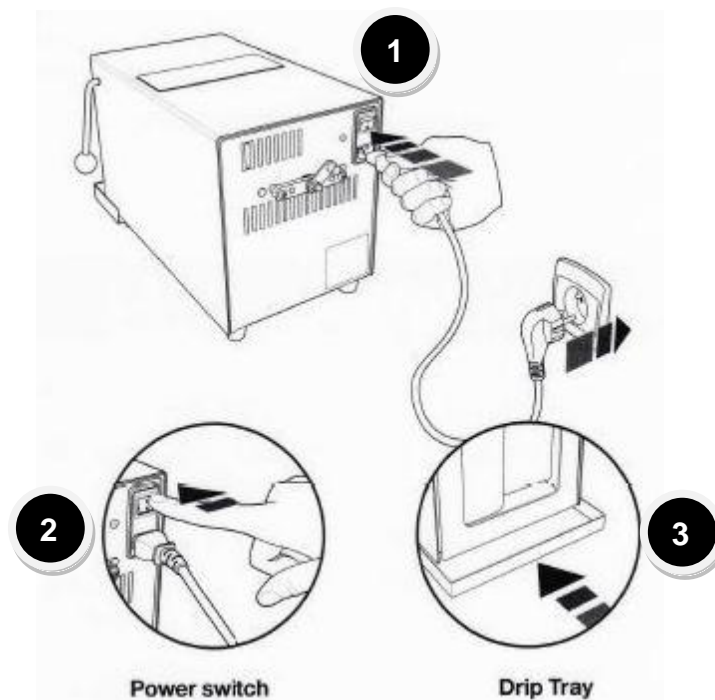

Fig.1
- Plug the mains power cord into the 220-240 V~ mains socket and position the unit so that there is ease access to the instrument. (Figure 1/❶)
- Turn the main switch **ON**. (Figure 1/❷)
- Slide the drip tray under the blending chamber; this will catch any drops or leaks during blending. (Figure 1/❸)